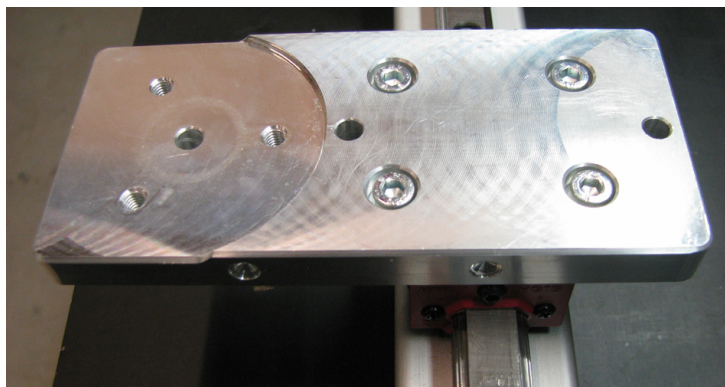

Figure 2.17:
- Mount the DCNC BeltDrive Slideplate to the HIWIN Carriage with 4 M5x12 DIN 912 Metric bolts as shown in figure 2.17.